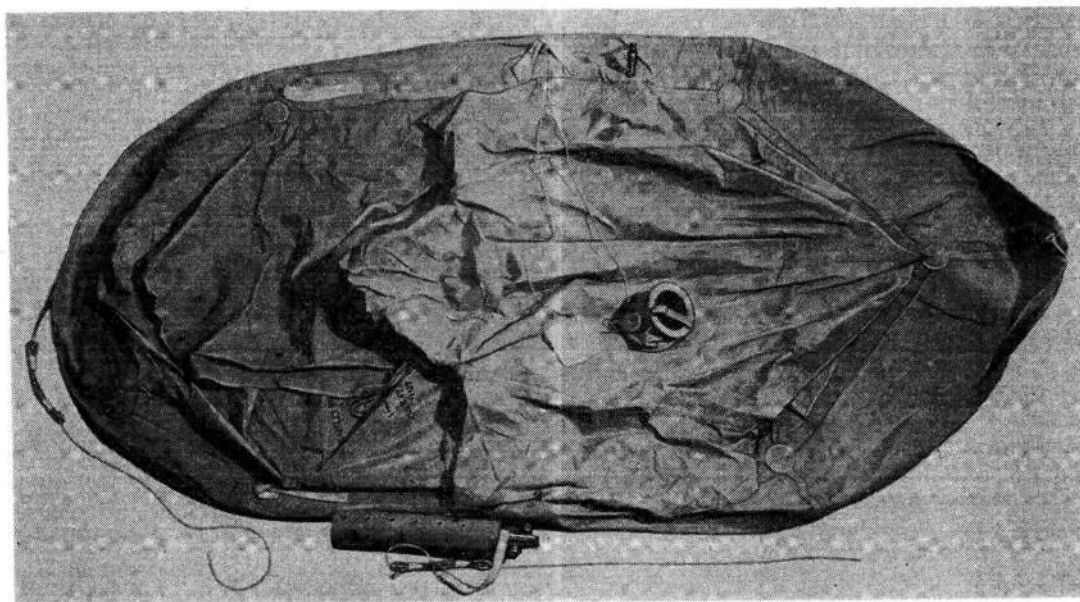

Fig. 2. Dinghy spread out on table ready for folding
14. Spread out the dinghy on a table ready for folding (*fig. 2*) and apply more french chalk; ensure that there is plenty of chalk underneath the exposure cover and round the seams.